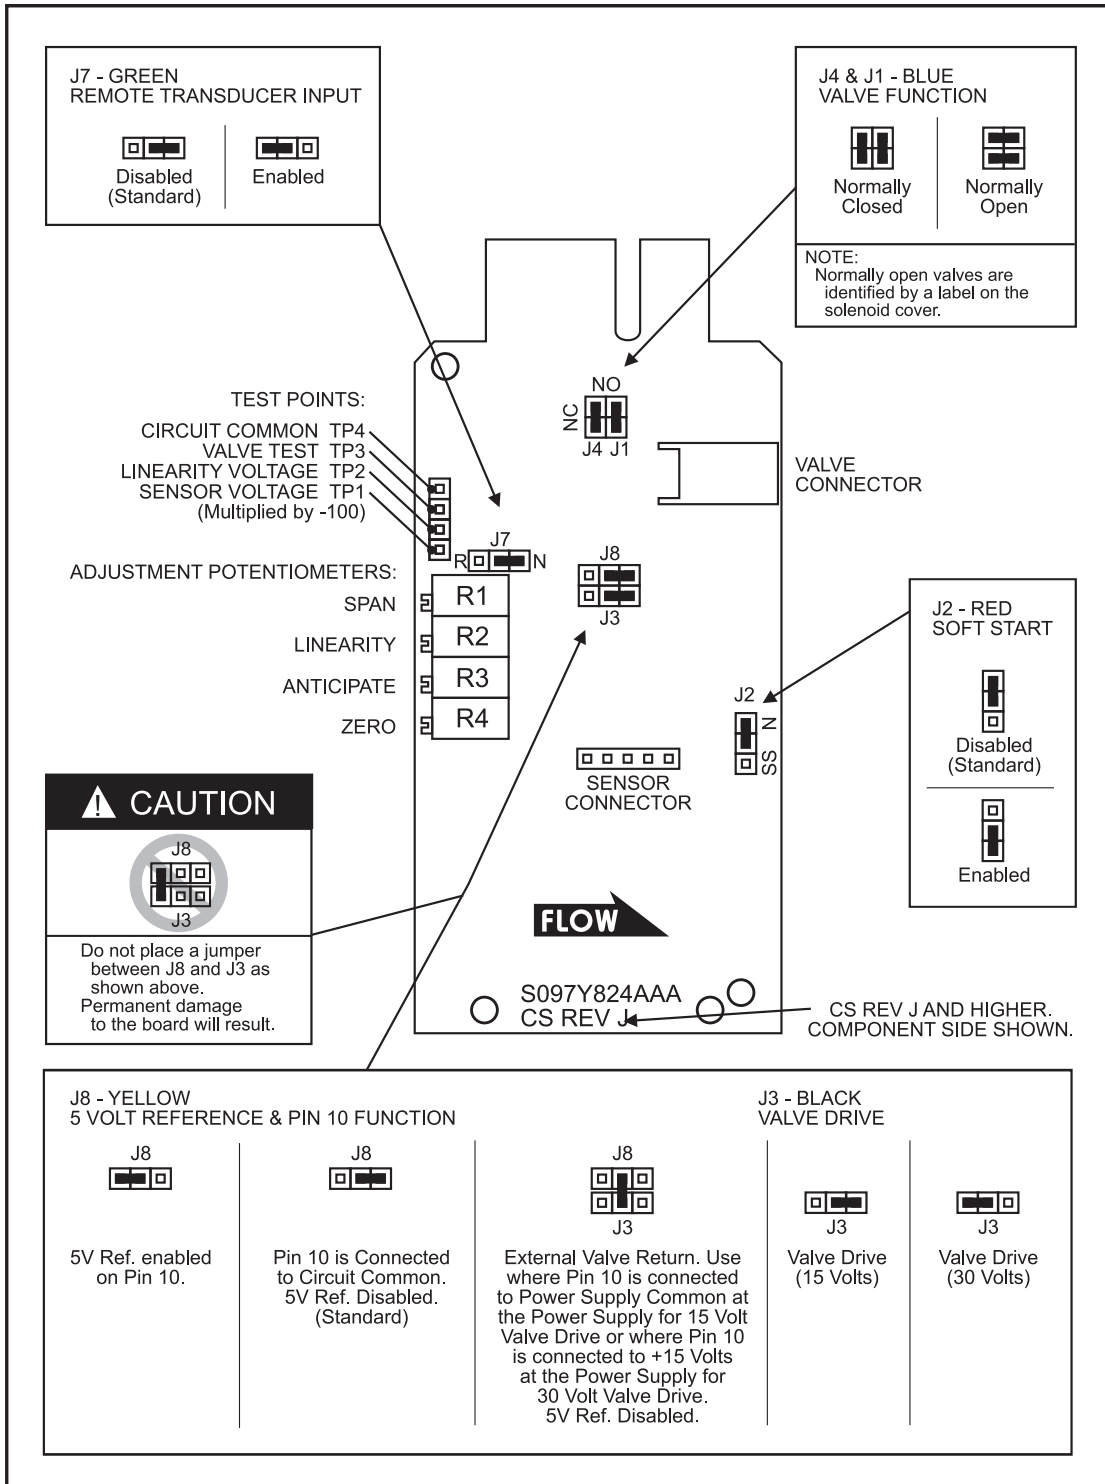

Figure 3-3 Card Edge PC Board Jumper Location and Function
Note: To obtain access to the jumpers, the electronics cover can must be removed. Disconnect the power to the mass flow controller and cables to the D-Connector and the valve coil connector. Remove the three screws at the base of the can and remove the top jack post of the D-connector. Remove the can. The can must be replaced before returning the unit to service. Refer to Section 2-6 for the proper electrical hookup. Refer to Figure 3-3 through 3-5 for PC board jumper locations and functions.
Refer to Figures 3-3, 3-4 and 3-5. To enable soft start, place the red jumper on the controller printed circuit board at J2 in the right hand (SS) position.
Refer to Figures 3-3, 3-4 and 3-5. To allow the Model 5965/5851EM control circuitry and valve to be used with an 0-5 Vdc external transducer signal, a green jumper is moved to the lower two pins at J7. With this feature enabled a 0-5 Vdc signal may be applied to the external transducer input terminal. The Model 5965/5851EM controller circuitry will modulate the valve position to increase or decrease the flow rate to maintain the transducer output at the desired set point. The control circuitry is reverse acting, e.g., for an increase in transducer output the flow will correspondingly be decreased.
**For the Card Edge model ( Figure 3-3), do not ground Pin 10 with the 5 volt reference enabled. Irreparable damage to the printed circuit board will result.**